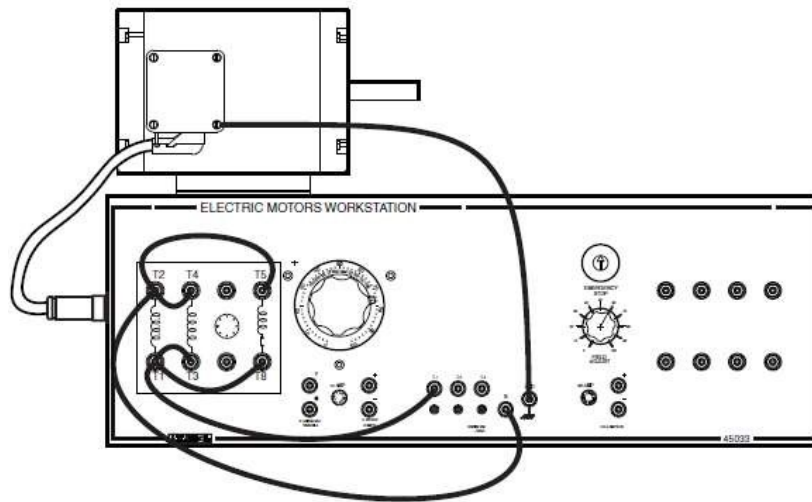

Figure 3: The wiring connections for a Split-phase motor.
6. Verify the connections on the Machines Training Unit by reviewing the illustration in Figure 3, which shows the connections between the different banana jacks on the Unit.